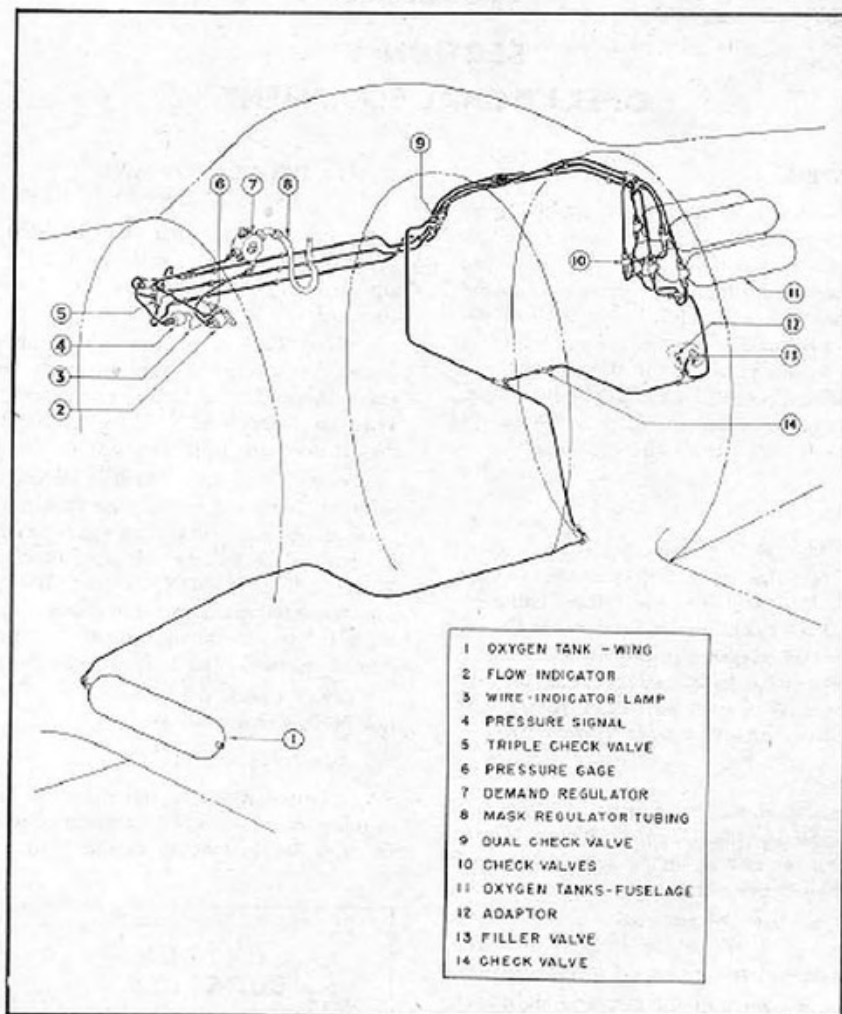

Figure 45—Oxygen System
a. GENERAL.—Breathing oxygen is supplied from six type D-2 low-pressure cylinders located in the fuselage aft of the cockpit and in the left-wing leading edge. (See figure 45.) An oxygen demand regulator is located to the pilot's right on the cockpit wall. A pressure gage and flow indicator are mounted on a sub-panel to the right of the instrument panel. (See figure 39.) The cylinders may be charged through the oxygen filler valve located on the fuselage left side aft of the cockpit.
(2) MASK.